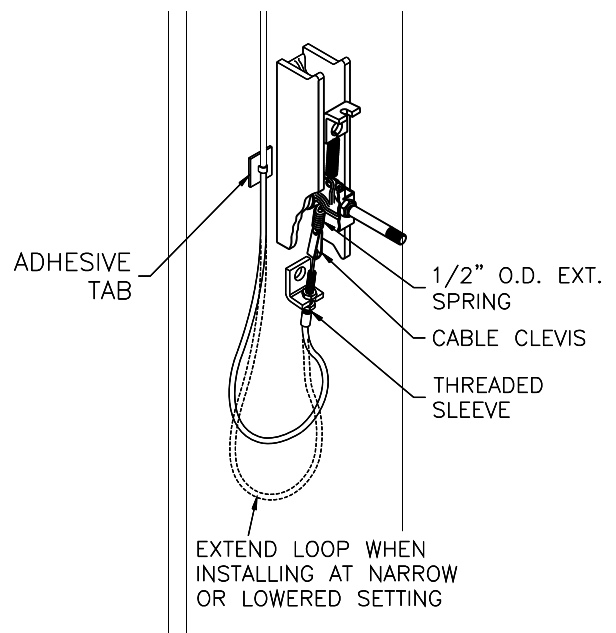

Fig 13 – Idler Column Lock Assembly
- 34) Attach Adhesive-Backed Tab to Idler Column left of the lock assembly (**Fig 13**). Route Lock Release Cable down left side of Idler Column and secure with loosely fit wire tie to Adhesive-Backed Tab. Attach Cable clevis to 1/2" O.D. Extension Spring.